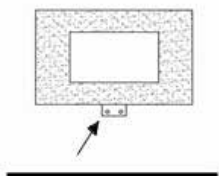

Fig. 5
- Mark the 2x bottom holes position for the lower small/short support bracket (see Fig.5, marked with arrow pointer), remove the heater.